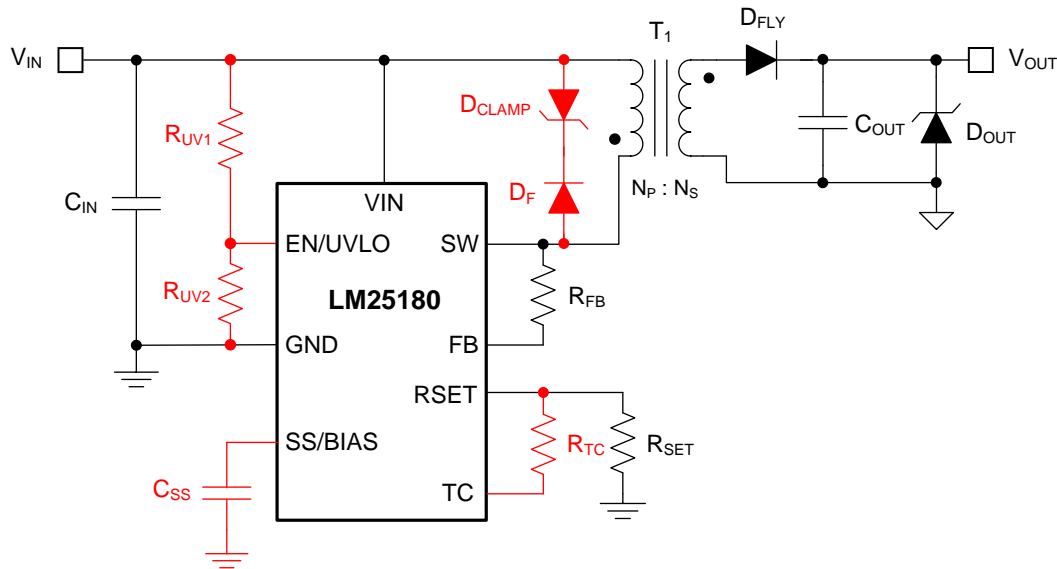

Figure 19. LM25180-Q1 Flyback Converter Schematic (Optional Components in Red)
Figure 19 shows a typical schematic of the LM25180-Q1 PSR flyback circuit. Components denoted in red are optional depending on the application requirements.
To minimize output voltage regulation error, the LM25180-Q1 senses the reflected secondary voltage when the secondary current reaches zero. The feedback (FB) resistor, which is connected between SW and FB as shown in Figure 19, is determined using Equation 8, where  $R_{\text{SET}}$  is nominally 12.1 kΩ.